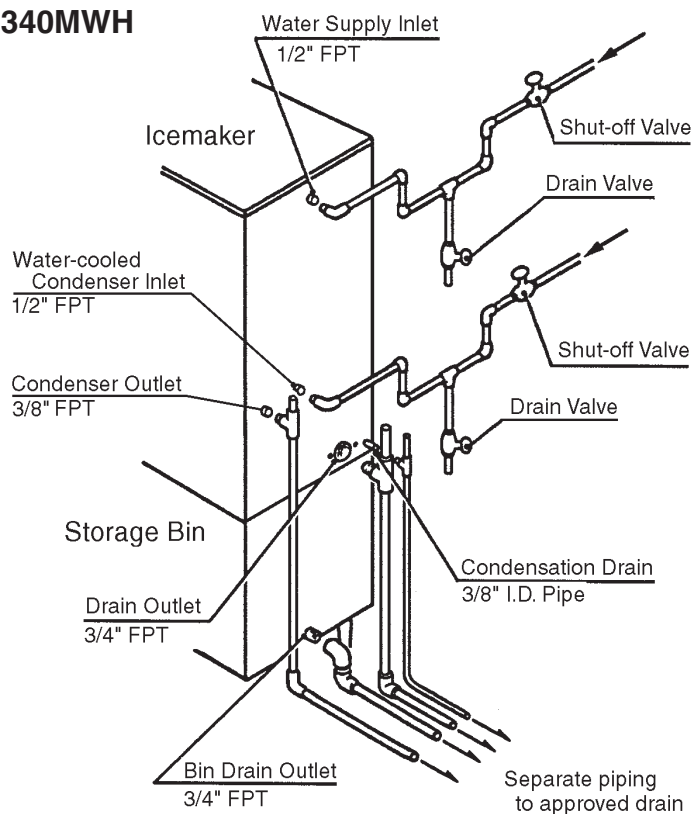

Fig. 10
See Fig. 10
- 6) Close the water-cooled condenser water supply line shut-off valve. See Fig. 10.
- 4) Close the potable water supply line shut-off valve and open the potable water supply line drain valve. See Fig. 10.